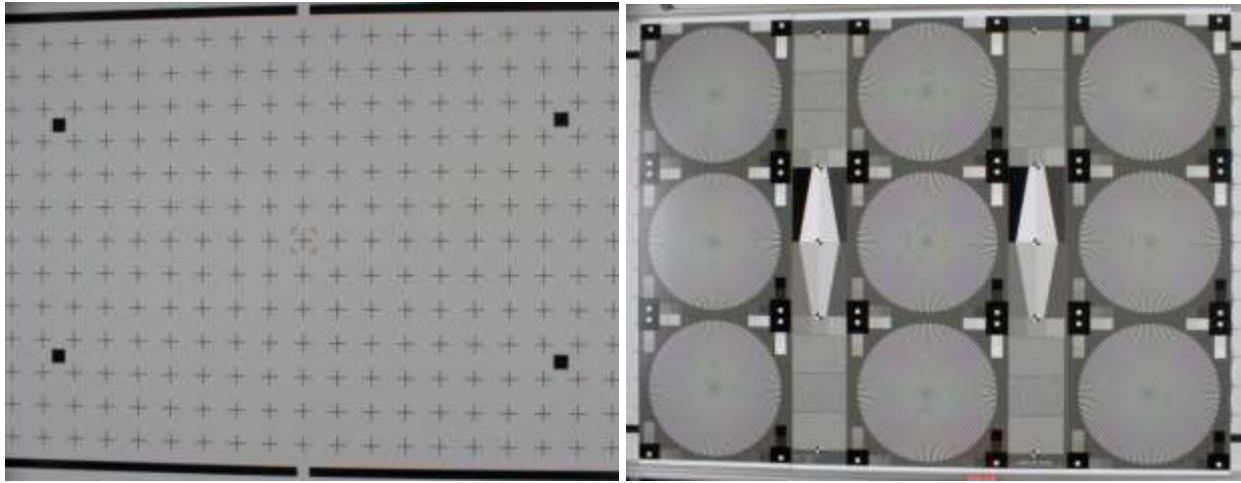

Figure 28. Examples of Images with Camera Rotation to the Left
30. If the left side of the image appears to shrink inwardly at both the top and bottom of the image (Figure 28), adjusting the Tripod Horizontal Rotation (center knob) so the front of the camera moves to the right as viewed from behind the camera will “square-up” the image.